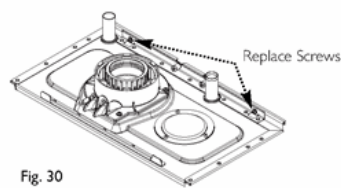

Fig. 29, Fig. 30 & Fig. 30a
3. Tighten the two securing nuts on the wall plate and complete the securing of the appliance by replacing the two screws previously removed. (Figs. 29 & 30).